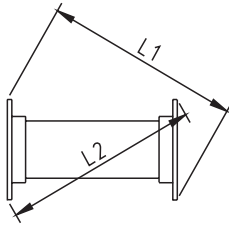

Fig.21 Rectangle duct
(8) The absolute value of difference between diagonal lines of rectangle flange should be $|L1-L2| \leq 3$, as shown in fig.21.